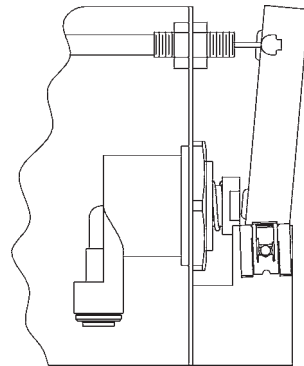

FIG. 8
3. Remove cable free play by adjusting the jam nuts on the ends of the operating cable. See Figure 8